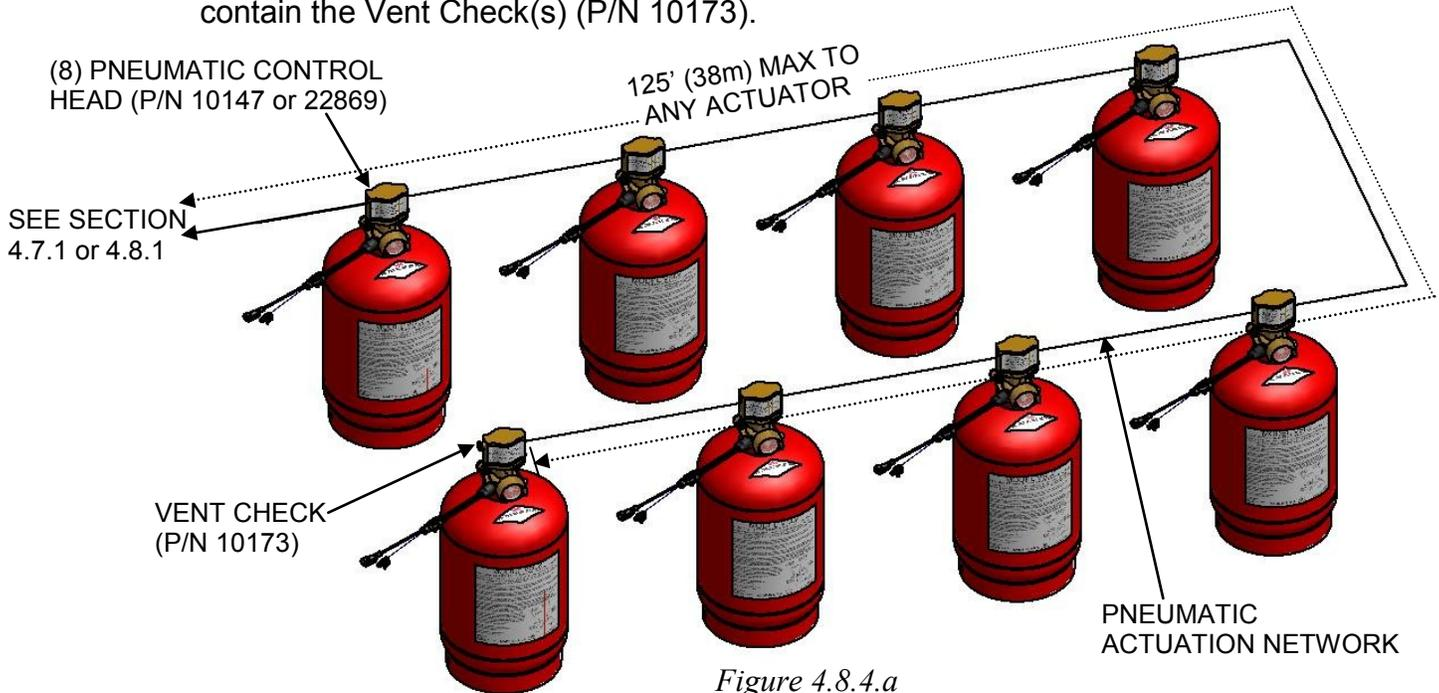

Figure 4.8.4.a
For multiple Agent Cylinder networks using Pneumatic Control Heads (P/N 10147 or 22869), a maximum of (8) eight cylinders may be used in a single system. Each control head will be connected in a “series” (Figure 4.8.4.a) or “parallel” (Figure 4.8.4.b) arrangement to the Pneumatic Actuation Network. “Parallel” arrangements will be connected using a 1/4” NPT tee. The last control head in each leg of the circuit will contain the Vent Check(s) (P/N 10173).
For “parallel” arrangements (Figure 4.8.4.b), the Pneumatic Actuation Network total length including each leg (LEG A & LEG B) of the arrangement plus the length from the tee to any actuator (LEG C) must not exceed 125 ft (38 meters).